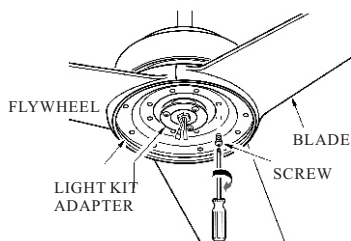

FIG. 11
2. Install the flywheel onto motor (see Fig.11)